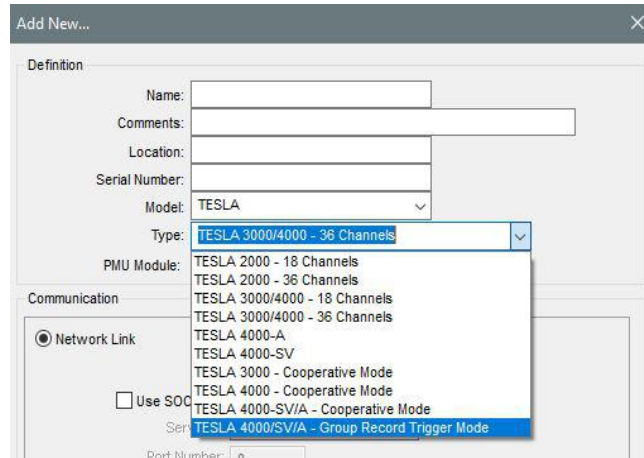

Figure 15.9: Add New Group Record Trigger Mode in TESLA Control Panel
2. After adding the group IED, two menu items, **Records** and **Setup**, will appear in the left-hand tree view (Figure 15.9).